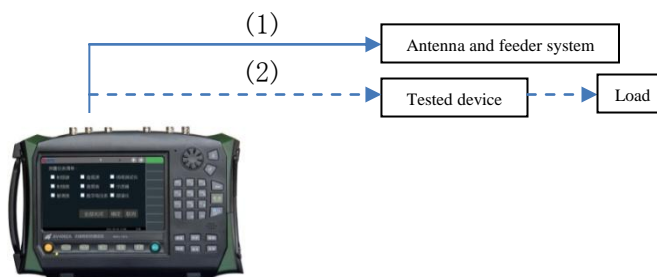

Fig. 4-12 Connection for Return Loss/SWR Measurement
The return loss or standing wave ratio (hereinafter referred to SWR) is a kind of expression of reflection characteristics. The return loss or SWR test can be done to single-port or double-port devices in engineering applications, as shown in (1) and (2) in Fig. 4-12 respectively.